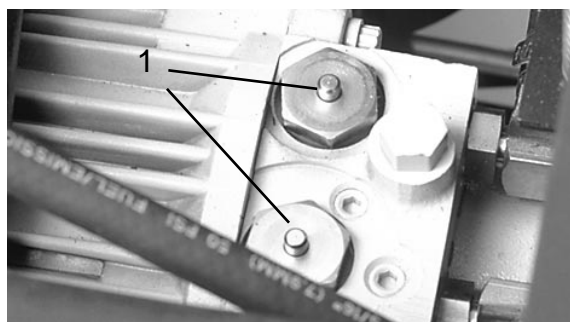

Figure 11
2. Depress and hold the pins located in the center of the two (2) check valve assemblies in the top of the transmission (Fig. 11) while pushing or towing the machine.